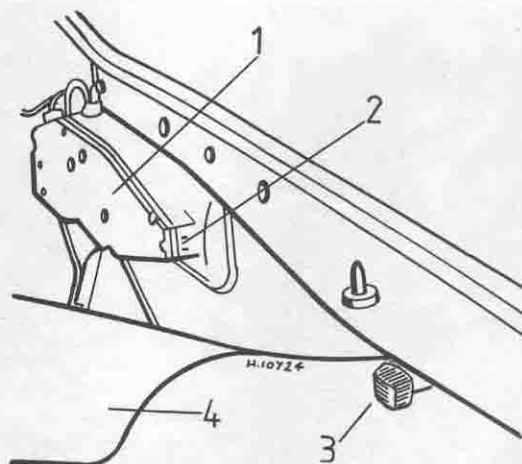

Fig. 10.14 Rear lamp assembly (Coupe and Spider) (Sec 25)
- 5 Open the boot and release the studs to remove the boot lining on the appropriate side to get at the lamp holder (Fig. 10.14). The bulbs are changed from inside the boot.